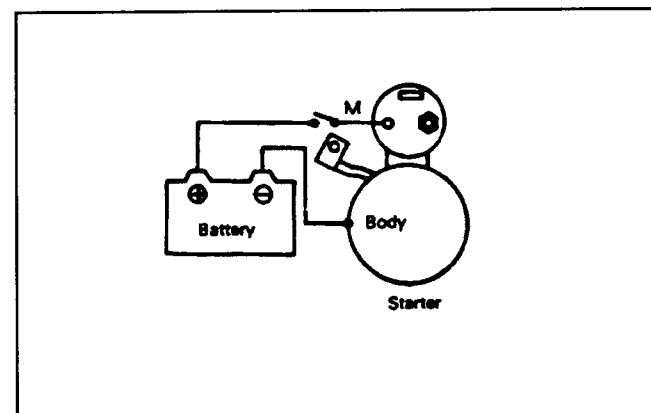

Figure 33
1. Disconnect the wire from terminal "M" (Fig. 33).